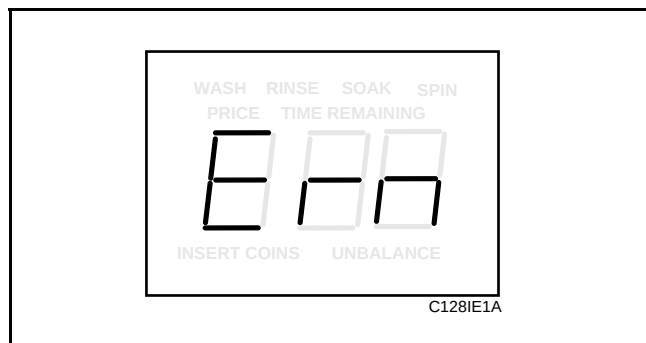

Figure 80
3. Press the DELICATES (+) pad or the COLD (-) pad to scroll through the programmable options until “Ern” appears in the VFD. See **Figure 80**.